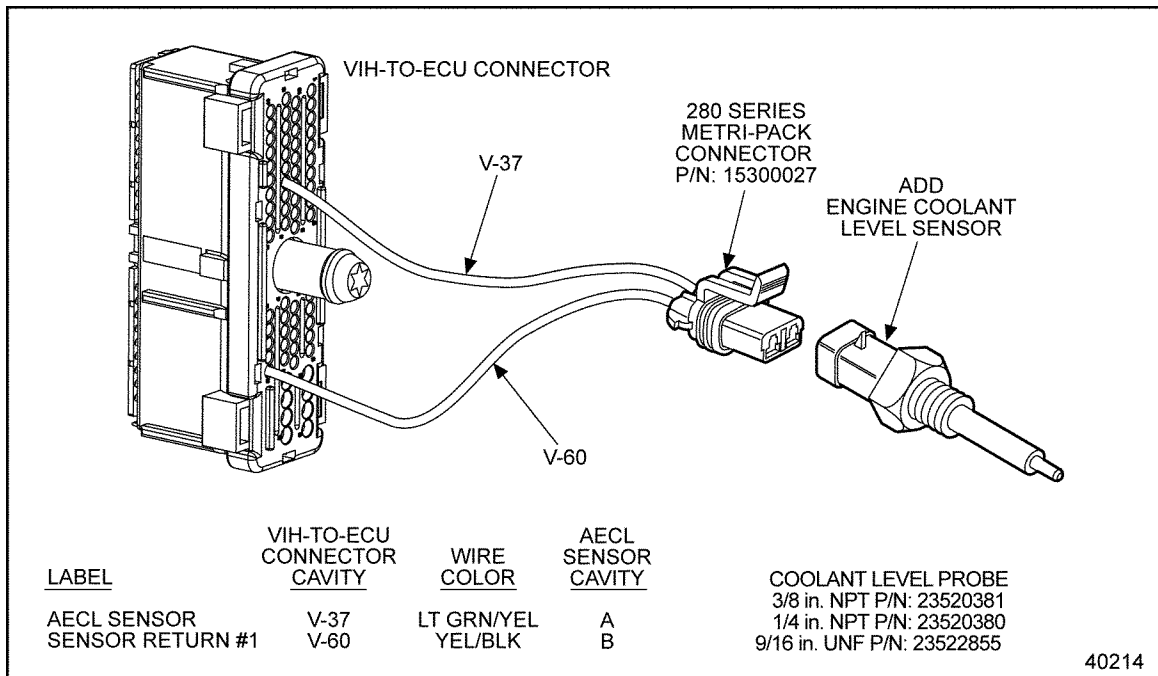

Figure 25-4 Add Coolant Level Sensor – Maintenance Alert System
Flash Code 16 indicates that the Add Engine Coolant Level Sensor (CLS/AECL Sensor), part of the Maintenance Alert System (MAS) see Figure 25-4, input to the ECM/ECU has exceeded 95% (normally > 4.75 volts) of the sensor supply voltage.
- [a] If code 13, (111/5) displays, replace the ACLS/AECL Sensor. Go to test. Refer to section 25.3.3.1. See Figure 25-4.
1. Insert a jumper wire between cavities A and B of the ACLS/AECL Sensor module connector. See Figure 25-4.